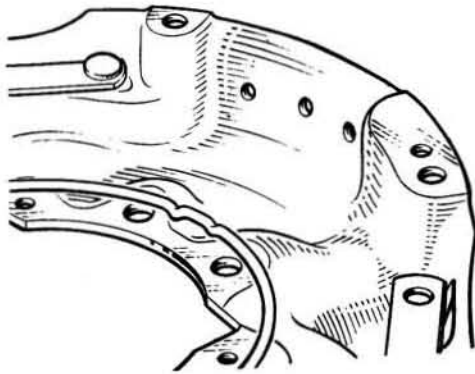

Fig.5.16. Assembly of fulcrum ring to cover pressing
- 23 Place the fulcrum ring inside the cover pressing so that the location notches in the fulcrum ring engage a depression between two of the larger diameter holes in the cover pressing. See Fig.5.16.